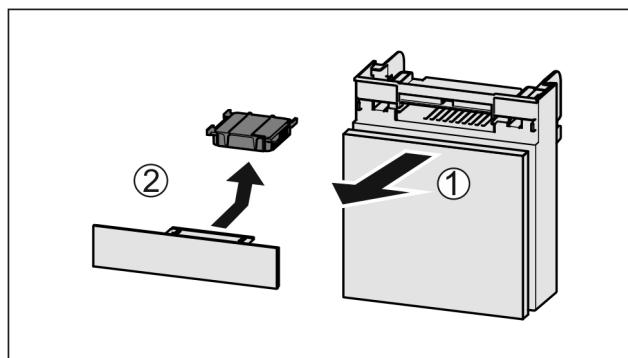

Fig. 144
- Pull out the compartment Fig. 144 (1).
- Remove the carbon filter Fig. 144 (2).